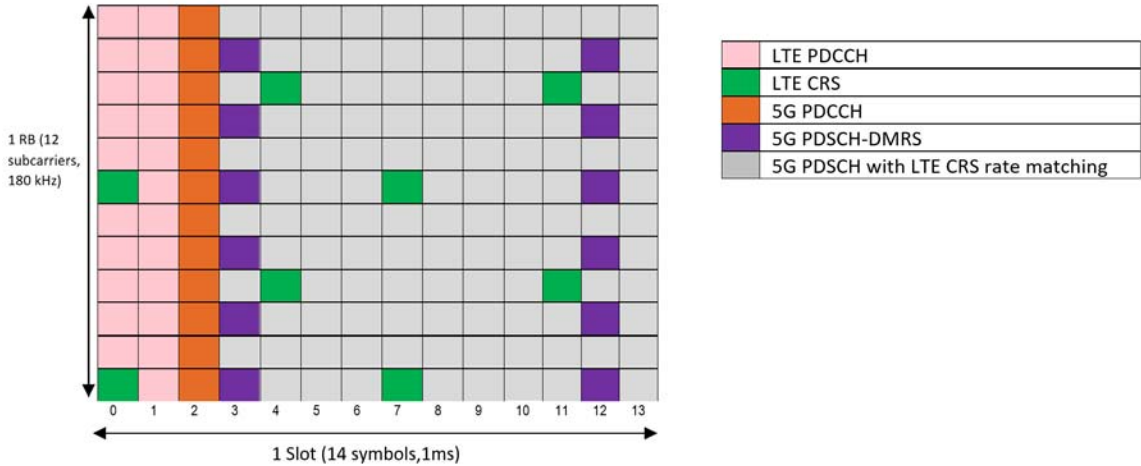

Figure 186 Graphical view of the LTE Normal subframe configuration
Figure 186 shows a graphical view of the LTE Normal subframe configuration used in this example (MBSFN not shown). LTE CRS is always ON. When 5G-NR physical downlink shared channel (PDSCH) uses 15 kHz SCS, the subcarriers of LTE and 5G-NR are also orthogonal. A 5G-NR user is configured with the LTE CRS frequency information so that you can calculate the LTE CRS positions as reserved resources, and the 5G-NR PDSCH rate will match around those reserved resources. By rate matching, 5G-NR PDSCH can also be scheduled on the OFDM symbols with CRS, but on the subcarriers not occupied by CRS, as shown below in grey and green.
- 4 Under the **Channel Setup** node on the left, select **#1 DCI** (first row of the table), set **PDCCH Allocations** to **2,2,2,2,2,2,2,2,2**. All PDCCHs will occupy 2 symbols per subframe. See the pink boxes in the resource element diagram in Figure 186.